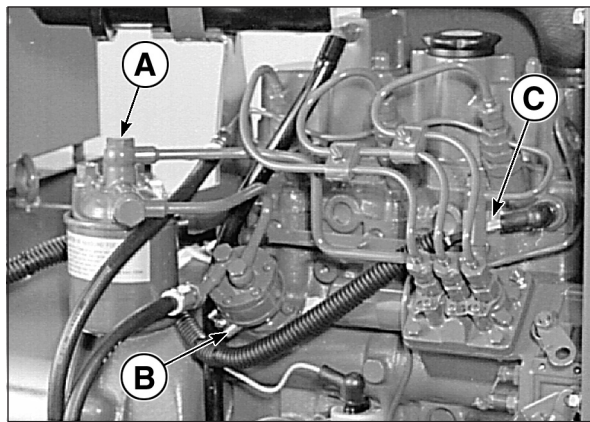

Figure 6: The Fuel System - the NL773LW4 varies slightly from this depiction
2. Loosen bleed bolt “A” (Figure 6) on top of the filter. Pump hand primer “B” on fuel lift pump until pure fuel (no bubbles) escapes from bleed bolt “A”. Tighten bleed screw “A”.